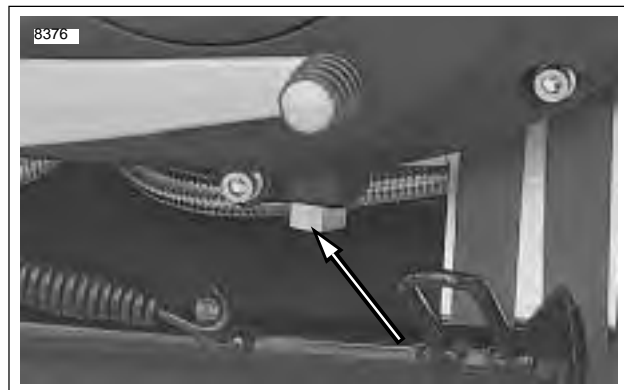

Figure 1-18. Primary Drain Plug
2. See Figure 1-18. Position a suitable container under drain plug. Remove plug and drain fluid.